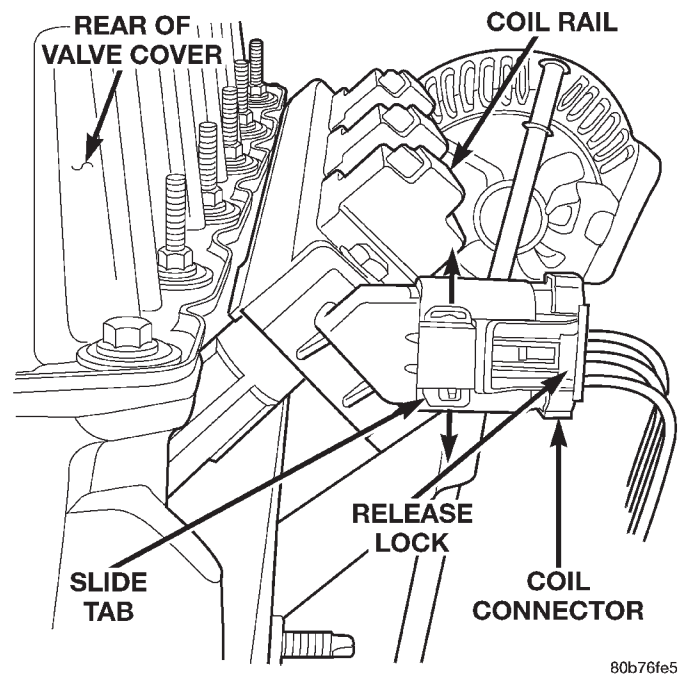
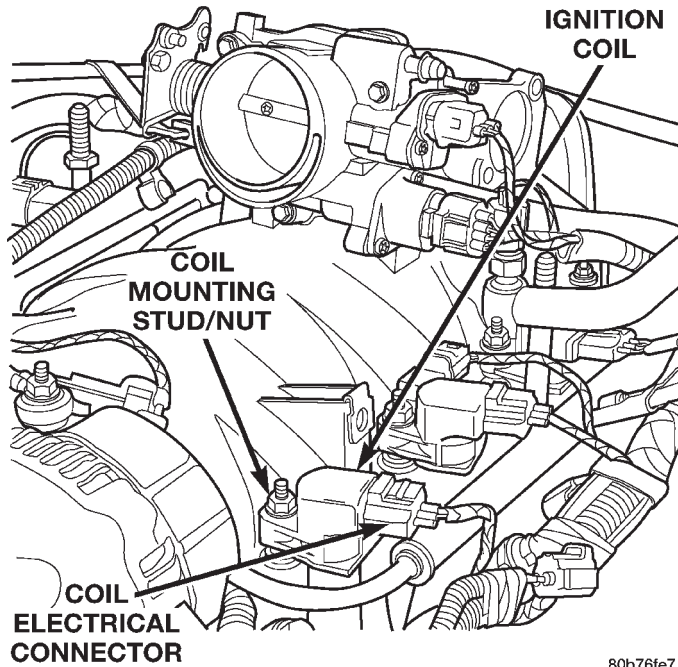

Fig. 4 Ignition Coil Connector—4.0L Engine
Fig. 5 Ignition Coil Connector—4.7L V-8 Engine
(4) Inspect ignition coil connections (Fig. 4) or (Fig. 5).